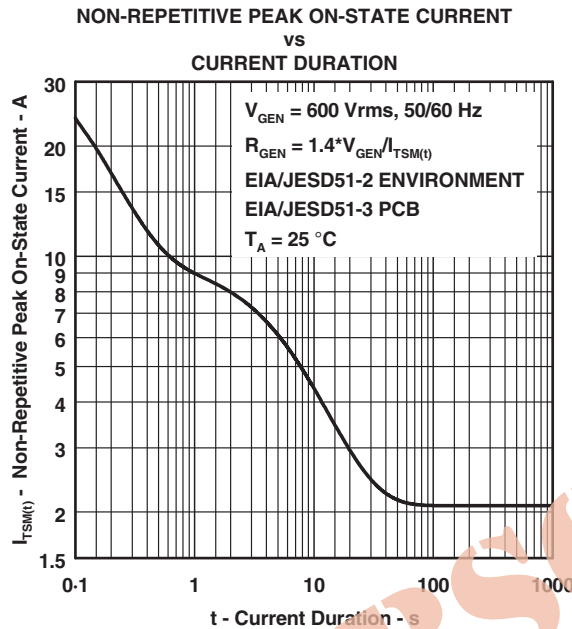

Figure 8.
5. EIA/JESD51-2 environment and EIA/JESD51-3 PCB with standard footprint dimensions connected with 5 A rated printed wiring track widths. See Figure 8 for the current ratings at other durations. Derate current values at $-0.61\% / ^\circ\text{C}$ for ambient temperatures above 25°C
The protector can withstand currents applied for times not exceeding those shown in Figure 8. Currents that exceed these times must be terminated or reduced to avoid protector failure. Fuses, PTC (Positive Temperature Coefficient) resistors and fusible resistors are overcurrent protection devices which can be used to reduce the current flow. Protective fuses may range from a few hundred milliamperes to one ampere. In some cases, it may be necessary to add some extra series resistance to prevent the fuse from opening during impulse testing. The current versus time characteristic of the overcurrent protector must be below the line shown in Figure 8. In some cases there may be a further time limit imposed by the test standard (e.g. UL 1459 wiring simulator failure).